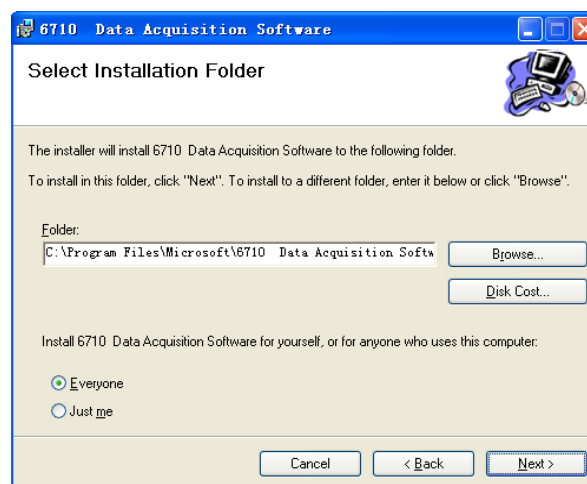

Figure 2-2
- 2) Then the screen shown in Figure 2-2 appears. Press "Next" after you select a folder to install this software.